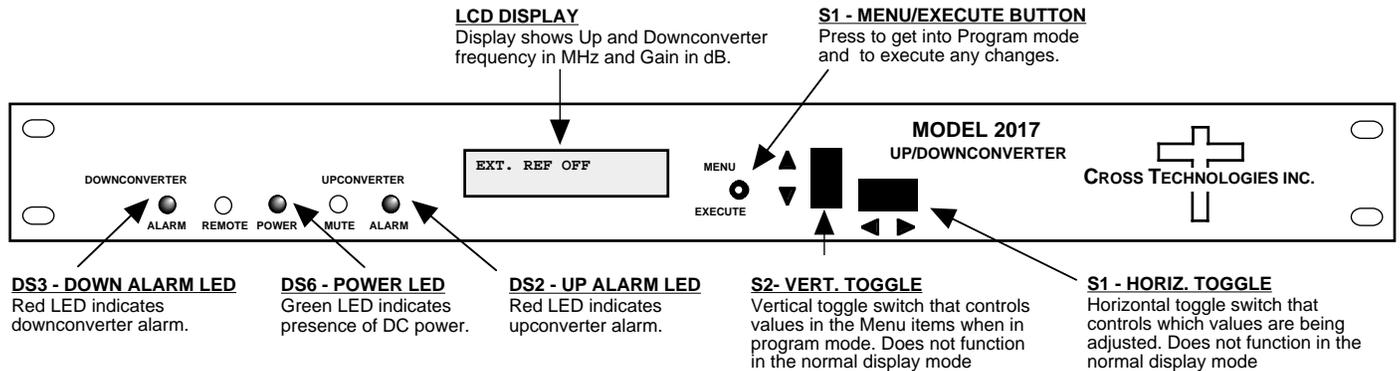

Figure 2.2 Model 2017-T03-400 Front Panel Controls and Indicators
- 4.) Be sure DS6 (Green, DC Power) is on and DS2 Upconverter Alarm and DS3 Downconverter Alarm are off (Figure 2.2).
2.5.1 Functions - This section describes operation of the front panel controls. There are three operator switches, the LCD display and alarm indicator LEDs. All functions for the equipment are controlled by these components. The functions are (see Figure 2.2):
Alarm indications appear on the LEDs (see figure 2.2).